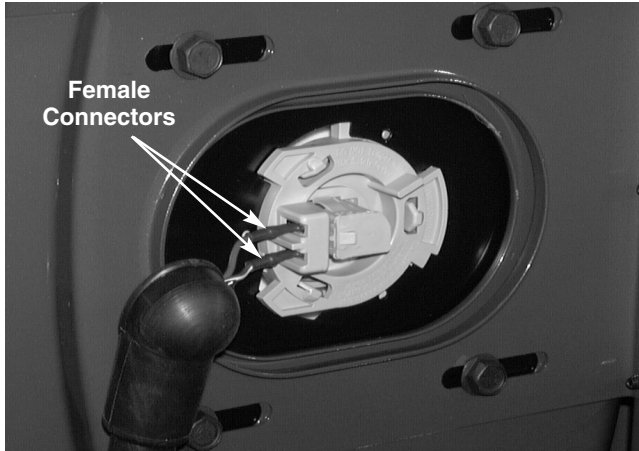

FIGURE 13.
- 38). Locate the seat switch and remove both female harness connectors. See figure 13.